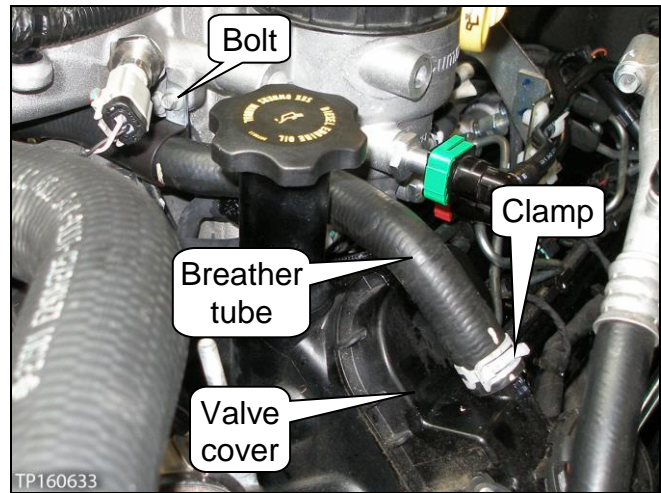

Figure 102
43. Connect the breather tube to the valve cover, and then install the clamp and bolt (see Figure 102).